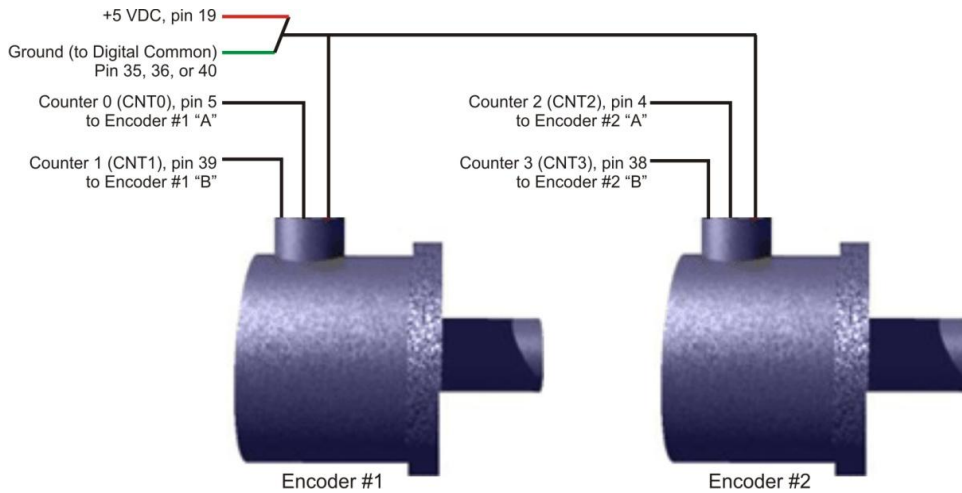

Figure 22. Two encoders connected to pins on the SCSI connector\*
**Wiring for two encoders:** Figure 22 shows the single-ended connections for two encoders. Differential connections do not apply.